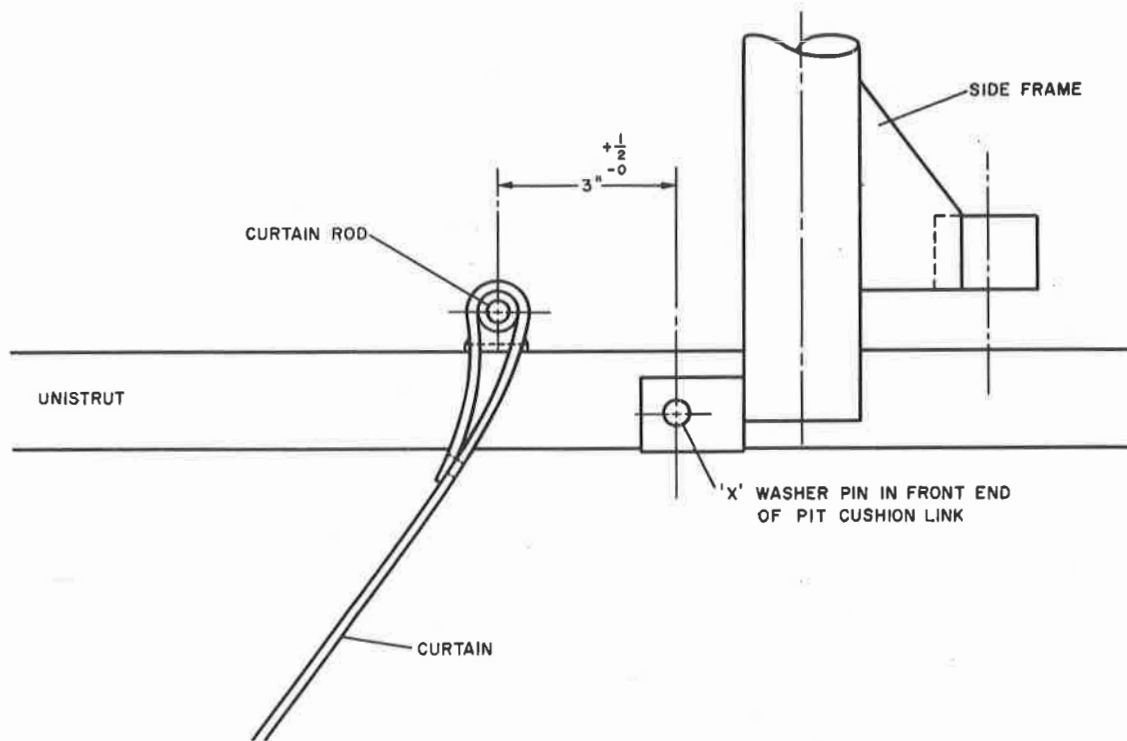

Figure 76. Pit Curtain Adjustment
21. PIT CURTAIN ADJUSTMENT. (FIGURE 76)